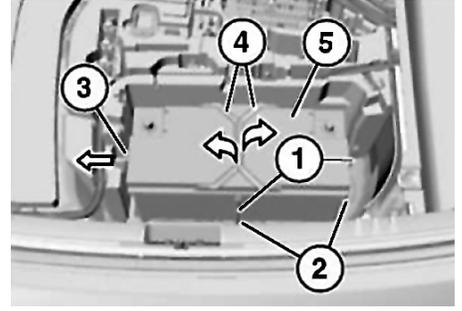

Fig. 4 Battery removal
7. Remove battery holder threaded pins (1), then remove battery holders (2), **Fig. 4**.
8. Detach battery vent hose (3) in direction of arrow as illustrated in **Fig. 4**.
9. Open battery clips (4) in direction of arrows as illustrated in **Fig. 4**.
4. Install battery holders (2) and threaded pins (1), **Fig. 4**.